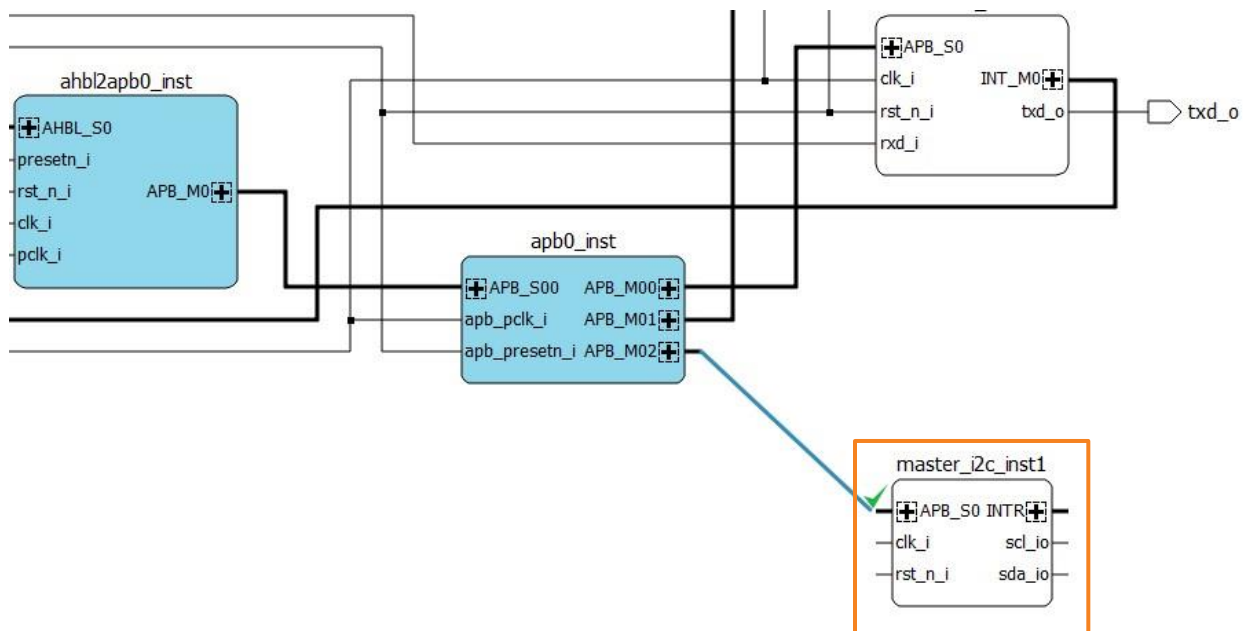

Figure 3.13. Propel Builder – Connecting I²C IP to APB
- Click and drag the I²C Master component to the right side of the schematic. Then click on the APB_M02 port and drag a connection to the APB_S0 port of the I²C Master component, as shown in Figure 3.13. Note the green checkmark indicates the width and direction of the ports match and is OK to connect the two.